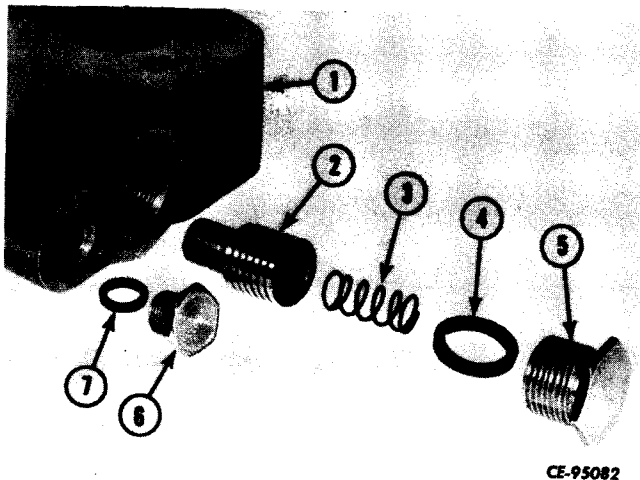
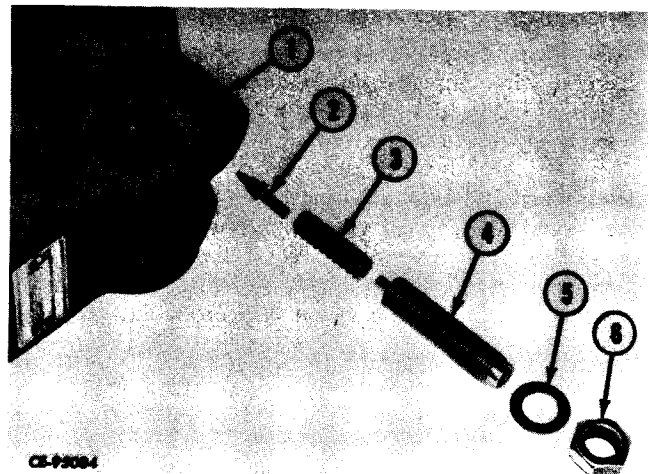

Figure 11-37
Figure 11-39
Remove plugs (5 and 6, Fig. 11-37) from relief valve (1). Slide spring (3) and check (2) from valve. Remove "O" rings (4, 7) from plugs (5, 6).
Loosen and remove nut (6, Fig. 11-39) and washer (5). Remove screw (4). Slide spring (3) and poppet (2) from valve (1).
Install poppet (2, Fig. 11-39) in bore of relief valve (1). Install spring (3) on poppet stem. Thread adjusting screw
(4) into plug bore until it begins to compress spring (3). Place washer (5) over screw and install jam nut (6). Do not tighten nut at this time.
Lubricate new "O" rings (4 and 7, Fig. 11-37) and install on plugs (5 and 6). Lubricate check (2) and slide into bore of valve (1). Install spring (3) in check (2). Install plugs (5 and 6) and tighten.